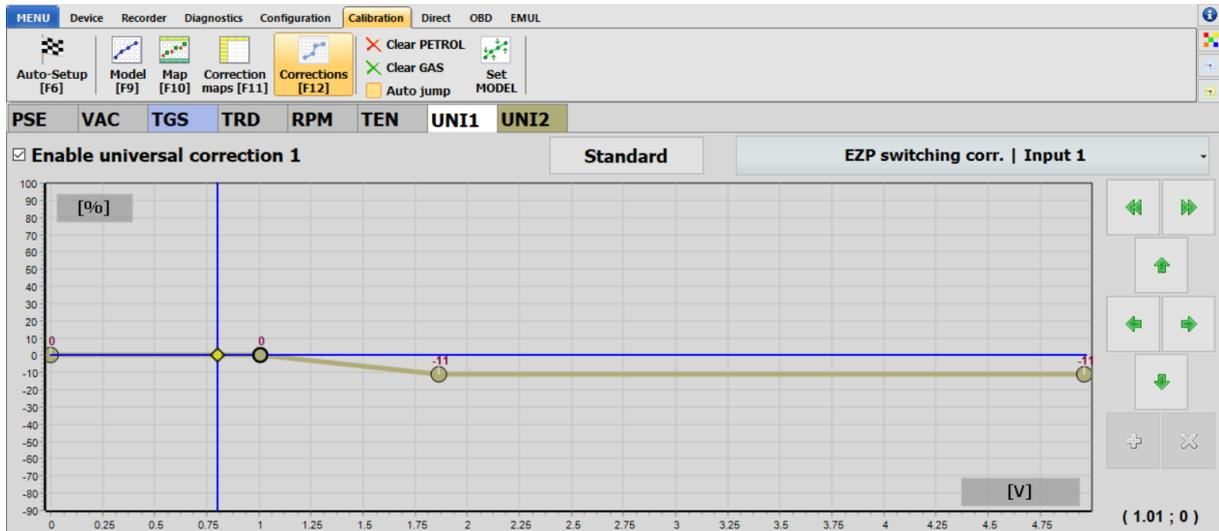

Fig. 2.89 Correction for switching for EZP
- Second point can only be moved horizontally, the correction for it will always be 0%. Choose its location so that the pressure value when working on gas is between points 1 and 2 (see blue vertical line **Fig. 2.89**)